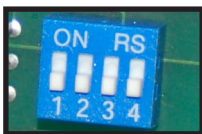

Figure 3: Dipswitches
- 2. Dip Switches (1-4) - See Figure 3.
- No ORP1 or ORP2 feed if pH is feeding (ON).
- No ORP1 or ORP2 feed if pH is in alert mode (ON)
- Feed base chemical when pH level falls below set point. (ON)